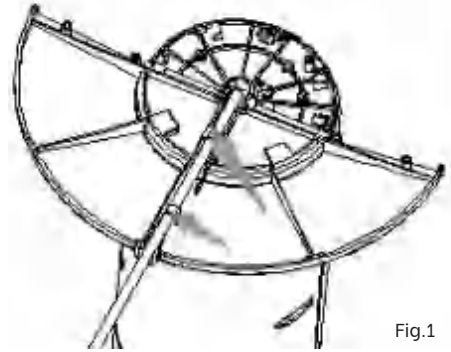

Fig.1
1. The base plate consists of two halves that need to be assembled and secured to the heater, fit the half that has the cable channel incorporated first, clip supply cord into the cable channel as show in (Fig.1)
3. Loosen the cover screw, Press the locking arm of the battery cover and pull out the tray. (Push tab “A” towards the middle first. See the Fig.1).